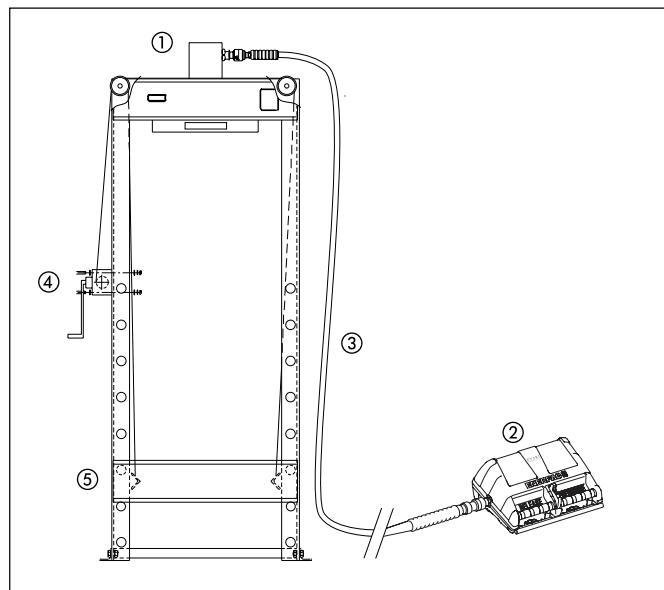

Figure 1, presse XLP 25 tonnes
3.0 INSTALLATION (Voir figure 1)